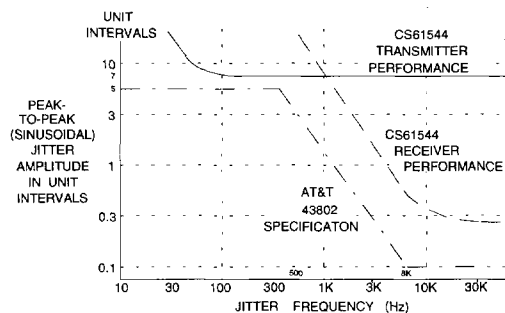

Figure 7 - Typical Input Jitter Tolerance of Transmitter and Receiver
- For Cerdip ICs, assumes IC is operated within -70° to $+70^\circ$ C of reset temperature. For Plastic ICs, assumes IC is operated within -25° to $+40^\circ$ C of reset temperature (meets Bellcore central office specification: TR-EOP-000063 NEBS). For all packages, assumes IC is operated within 0.1 V of reset V_+ . Input data pattern is quasi-random: (2 \uparrow 20) - 1 with 1-in-15. Between 500 Hz and 8 kHz the jitter tolerance will be better than the AT&T 43802 line shown in Figure 7.